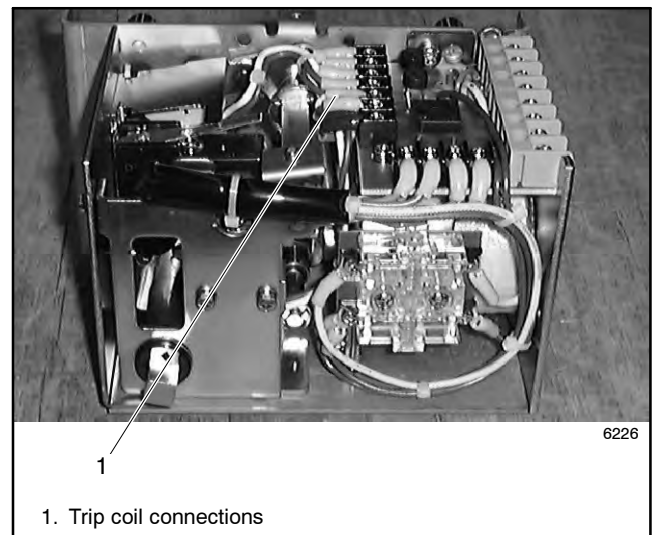

Figure 7-22 Trip Coil Connections
2. Note the connections and disconnect the trip coil leads from the printed circuit board. See Figure 7-22.